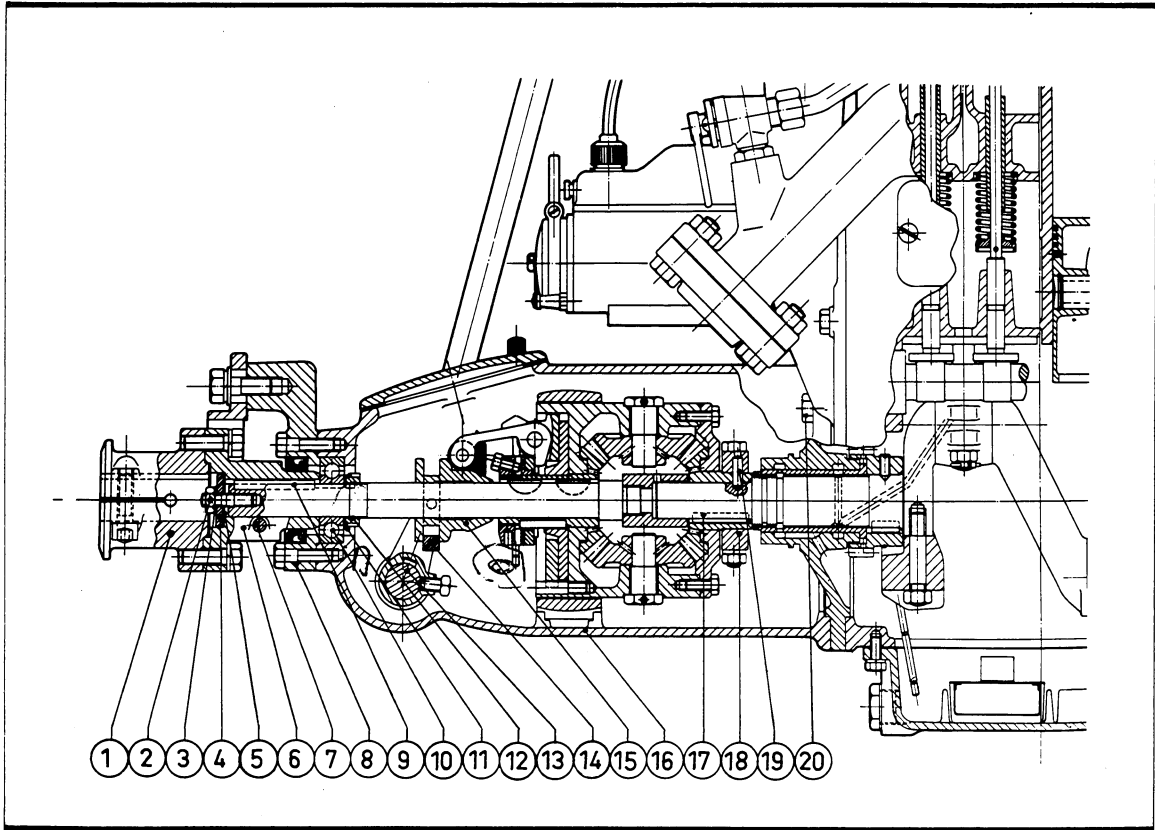

Fig. 1 Section through reverse gear
- 2 Release the shaft coupling 1 (Fig. 1) with the propeller shaft.
- 9 Remove the retainer, 8, (Fig. 1) from the ball bearing, 10, and knock out the key, 9.
- 2 Fit the key, 17, Fig. 1, and set the gear housing in position. The gear housing is secured by the collar, 18. Check that the dowel pin, 19, is fully entered into the shaft hole. Where raised crank start is fitted see that the pawl, K, in Fig. 2, is free from the shoulders of the collar, 18, when at its lower position.
- 5 Screw in the four bolts, 20, remembering that the short bolt (shown in Fig. 1) shall be fitted at upper right.
- 14 Mount coupling 6 (Fig. 1) tight against the ball bearing, 10. Do not tighten the bolt, 7, yet.